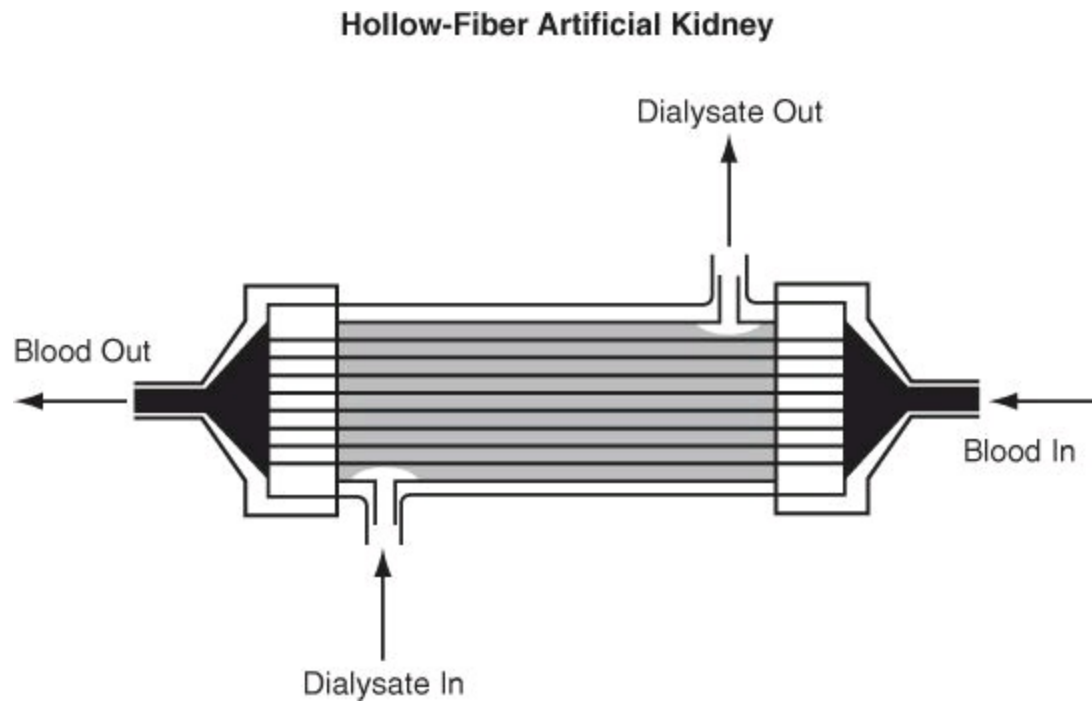

Figure P4.1.4
- *4.1.4.** Figure P4.1.4 is a sketch of an artificial kidney, a medical device used to remove waste metabolites from the blood in cases of kidney malfunction. The dialyzing fluid passes